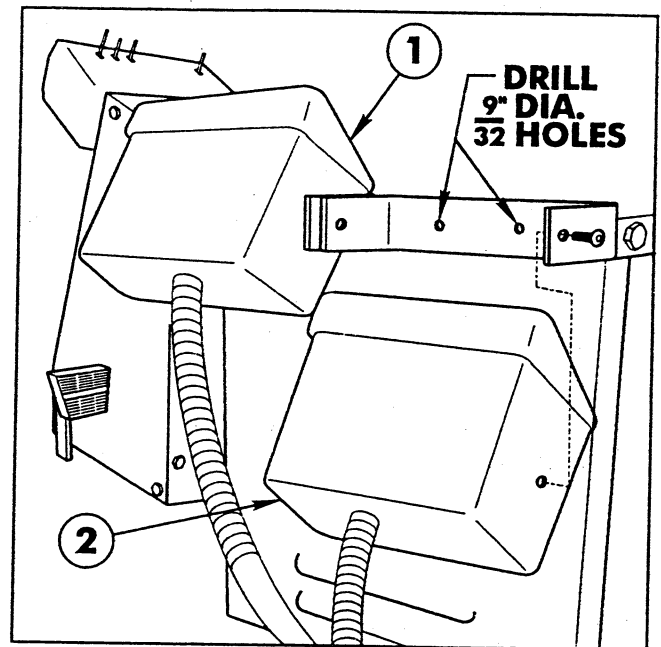

FIG. 8
2. Align the new holes with the holes in the Seat Support and secure the Bracket to the Seat Support with two (2) 1/4" x 5/8" washer hd. cap screws.
3. Reinstall the Monitor Control Box within the Mounting Bracket and secure with the two (2) 1/4" x 3/4" socket hd. cap screws removed previously. See FIG. 8.
2. Using the Mounting Bracket as a template, locate, mark and drill two (2) 9/32" dia. holes in the Seat Support as shown in FIG. 8.